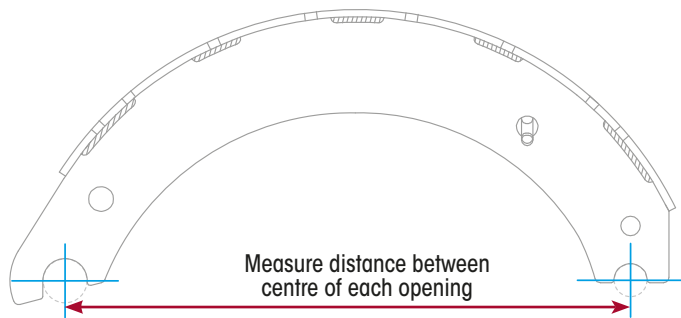

Figure 55: Checking Brake Shoe Spread
3. Check brake shoe for spread. Measure centres between anchor and roller hole centres. Replace shoes if the measurement is greater than specification. Refer Table 5 and Figure 55.